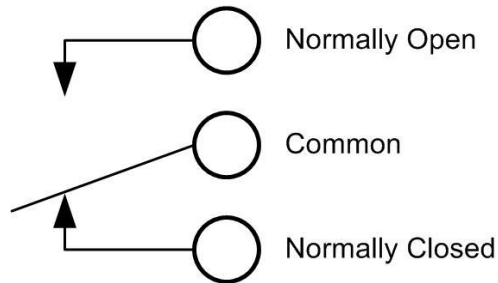

Figure 6. Form C Relay (0) contacts
The Form C relay has a common, normally open (NO) and normally closed (NC) contact. Figure 6 shows the schematic for a Form C relay, like those connected at relay 0 through relay 4.